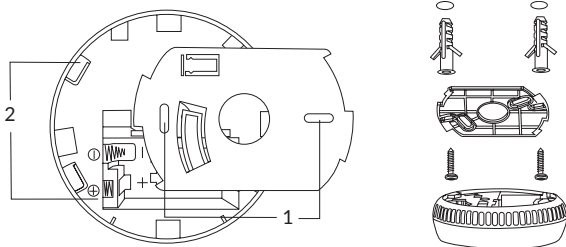

Fig. 9
- 6.5.** To install the device, attach its base to the ceiling. To do this, mark the installation location, drill holes for the wall plugs, and secure the base using the screws provided. Next, attach the housing to the device by aligning and inserting the two distinctive tabs located on the base's edge (Fig. 9). These tabs fit into two elongated slots on the device's housing (Fig. 9). Finally, rotate the housing clockwise to secure it.